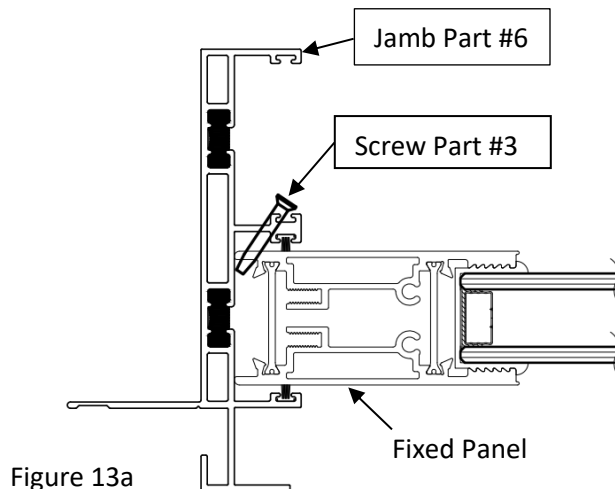

Figure 13a
16. Secure fixed panel to the frame with the 2 screws (Part #3) provided in the hardware box (use sealant to lubricate screws). Screw through the pre-drilled holes in the center weather strip track of the jamb at 24" above the sill and 24" below the head as shown in figures 13a and 13b. For false jamb installation, see Appendix A.